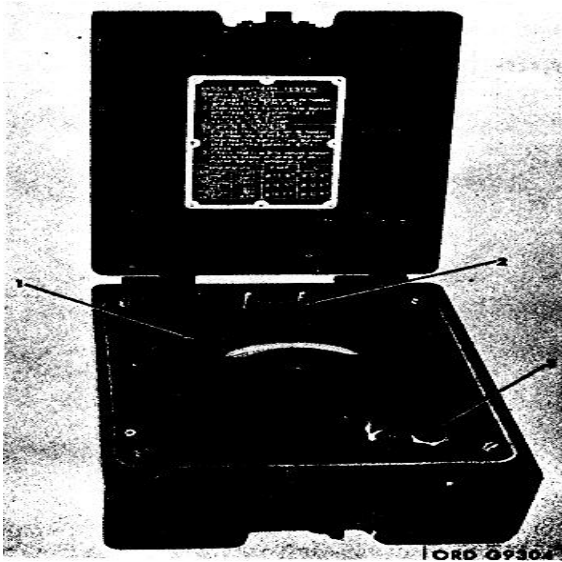

Figure 18. Missile battery tester.
b. Battery Tester (fig. 18). The battery tester checks the missile batteries in both no-load and full-load conditions. The tester consists of a voltmeter (0-15 volt range), a 56-ohm resistor, a 3-position switch, a connector, and an instruction plate.
Table 3. Battery Tester-Controls and Indicators (fig. 18)